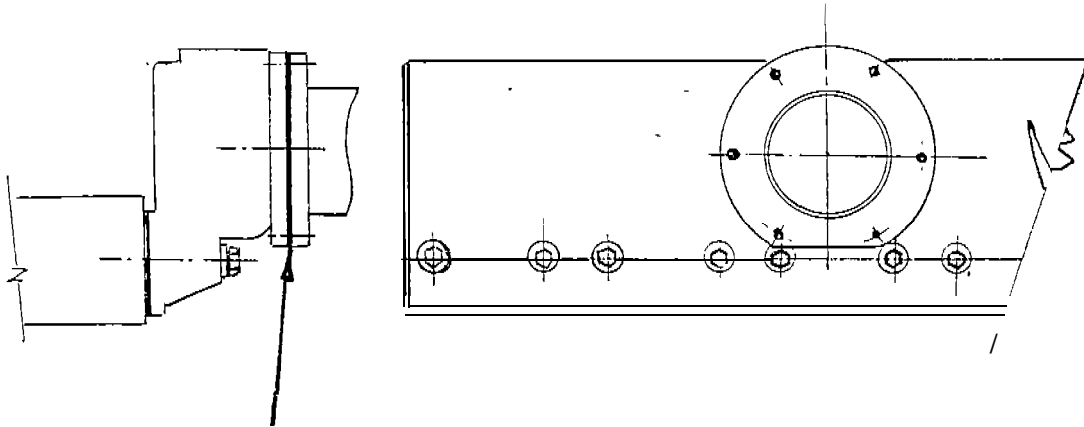

Figure 9. Gasket Between Exhaust Pipe and Exhaust Manifold Flange
- (WEEKLY) 15. () A copper or bronze gasket is installed between the flange of the exhaust pipe and the flange of the exhaust manifold as shown in Figure 9.